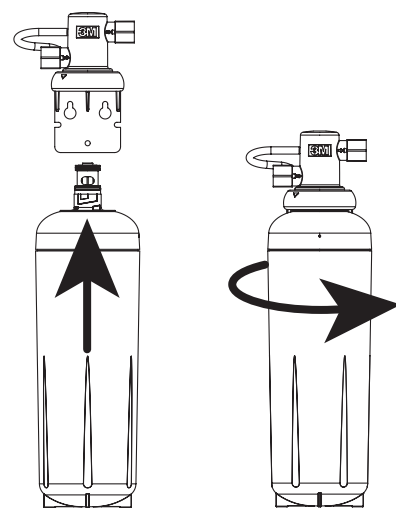

Figure 7
5. Insert replacement filter into filter head assembly. Turn replacement filter one quarter turn to the right (clockwise) until it stops. When fully engaged, the top surface of the filter will be flush with the bottom of the filter head assembly. (See Figure 7)
6. Reset PID: After the filter has been replaced, press the "CHECK/RESET" button for four (4) seconds. A long "beep" sound can be heard and the remaining capacity on the LCD screen is reset to 1,000 gallons.